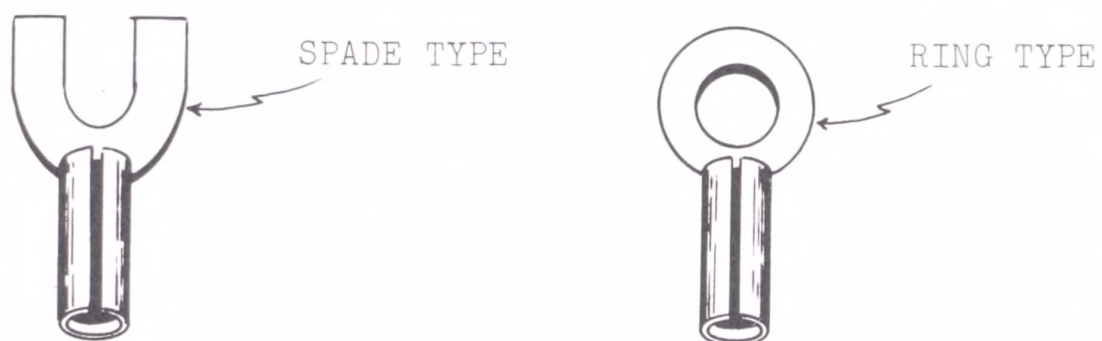

FIG.10
6. Remove about one-half inch of insulation from the wire end. Insert the bare wire end into the wire connector as far as insulation permits. (*Figure 10*)